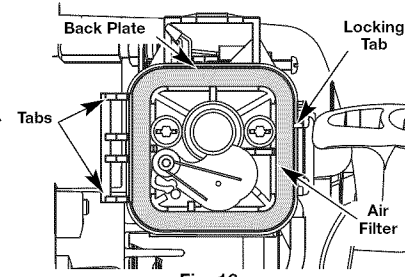

Fig. 16
- Remove the air filter (Fig. 16).
- Replace the filter (Fig. 16).
- Reinstall the air filter cover. Position the slots on the left side of the air filter cover onto the tabs on the right side of the back plate (Figs. 16).